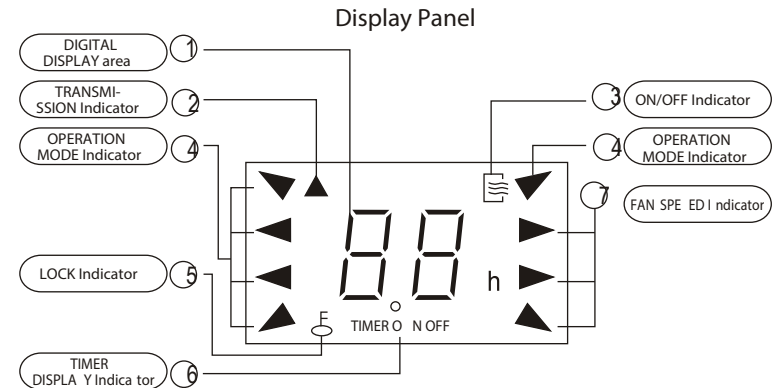

Fig. 2
- ① DIGITAL DISPLAY area: This area will show the set temperature and, if in the TIMER mode, will show the ON and OFF settings of the TIMER. If in the FAN mode, nothing is appeared.
- ② TRANSMISSION Indicator: This indicator flashes one time when remote controller transmits signals to the indoor unit.
- ③ ON/OFF Indicator: This symbol appears when the unit is turned on by the remote controller, and disappears when the unit is turned off.
- ④ OPERATION MODE Indicator: When press the MODE button, it shows the current operating mode -- "AUTO", "COOL", "DRY", "HEAT" (Cooling only model without) , or "FAN" mode.
- ⑤ LOCK Indicator: LOCK display is displayed by pushing the LOCK button. Push the LOCK button to clear display.
- ⑥ TIMER DISPLAY Indicator: This display area shows the settings of the TIMER. That is, if only the starting time of operation is set, it will display the TIMER ON. If only the turning off time of operation is set, it will display the TIMER OFF. If both operations are set, it will show TIMER ON-OFF which indicates you have chosen to set both the starting time and off time.
- ⑦ FAN SPEED Indicator: Press the FAN SPEED button to select the desired fan speed setting (Auto-Low-Med-High). Your selection will be displayed in the LCD window except the Auto fan speed.
**▲ NOTE:** All signs shown in the Fig.2 is for the purpose of clear presentation. But during the actual operation only the relative functional signs are shown on the display panel.